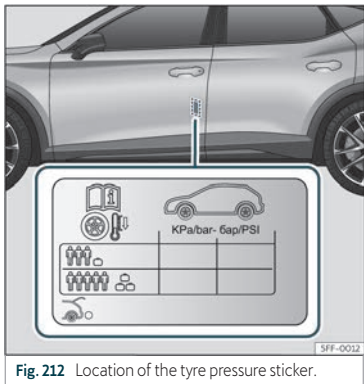

Fig. 212 Location of the tyre pressure sticker.
- Adjust tyre pressure to the load being carried by the vehicle»» Fig. 212 .
The tyre inflation pressures are listed on a sticker on the rear of the front left door frame»» Fig. 212 .
The tyre pressure must be adjusted according to the load the vehicle is carrying. If the vehicle is going to carry the maximum load, the tyre pressure should be increased to the maximum value indicated on the sticker »» Fig. 212.
In the case of a minimised temporary spare wheel (125/70 R18) inflate to a pressure of 4.2 bar as indicated on the tyre pressure label»» Fig. 212 .
»» Fig. 212.
- »» Fig. 212.